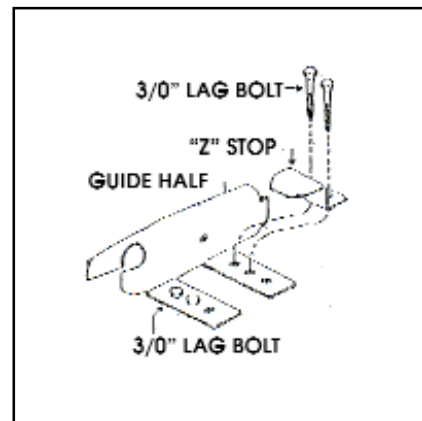

Figure 20
1. Fasten one-half of the guide with 3/8" lag bolts. Locate the "Z" stop on the center lag of the unfastened half as shown in Figure 20.